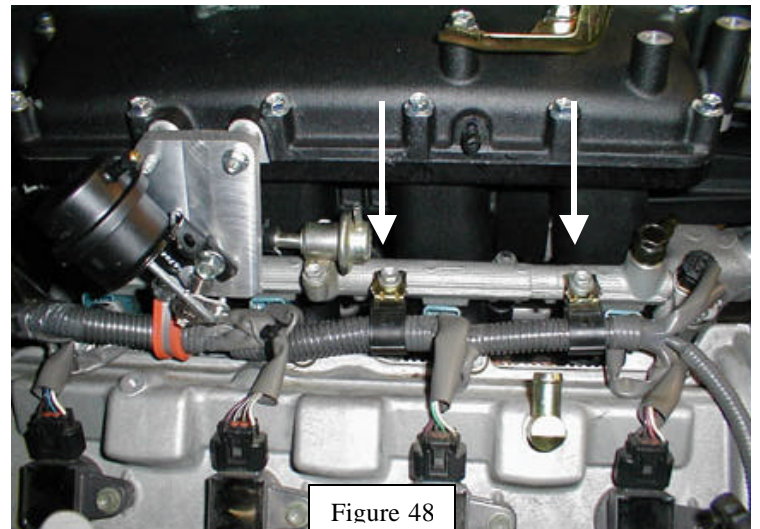

Figure 48
16. Turn the brackets upside down and re-attach to the fuel delivery pipe using the OE bolts (Figure 48).